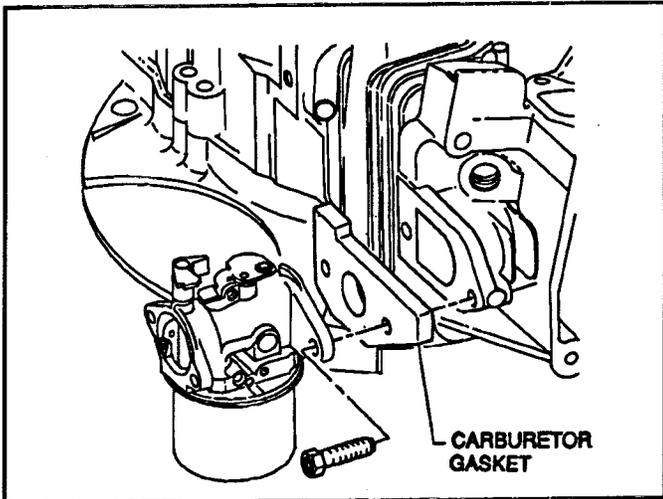

Figure 44
2. Remove the two 3/8" hex, washer head shoulder screws that retain the carburetor. See Figure 44.